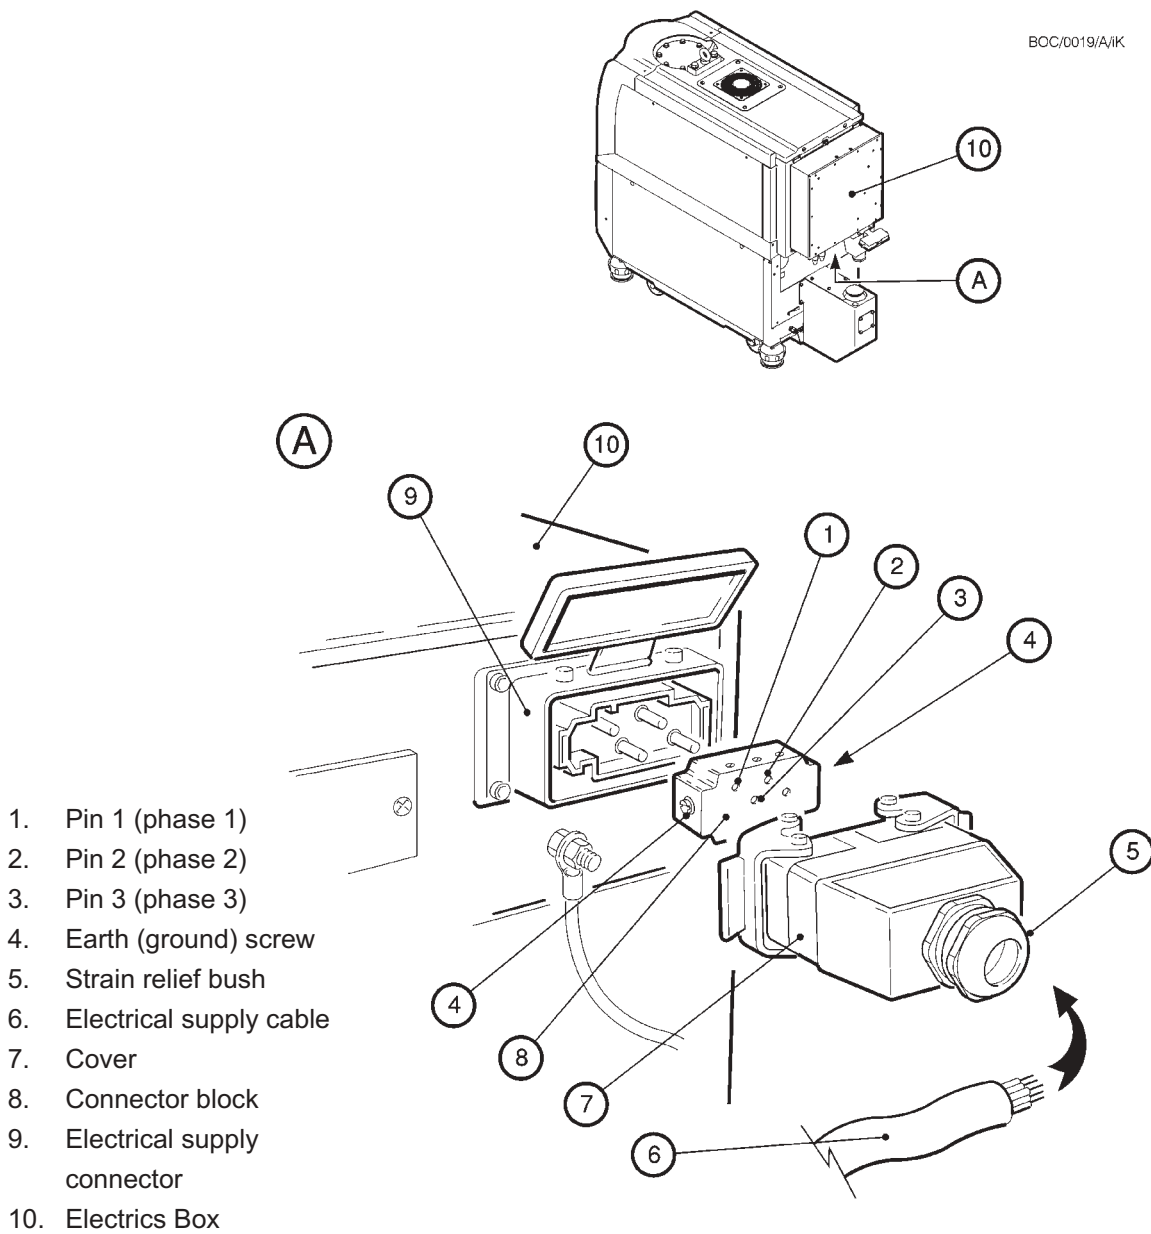

Figure 3-13 - Connect the electrical supply cable to the connector mating-half
1. Refer to Figure 3-13. Remove the connector block (8) from the hood (7) of the mating-half electrical supply connector.
5. Connect the cable phase wires to the pins of the connector block (8), as shown in Table 3-4.
6. Connect the earth (ground) wire of the cable to one of the two earth (ground) screws (4) on the side of the connector block (8).
7. Refit the connector block (8) into the connector hood assembly (7), and tighten the gland locking nut (5).
8. Fit the mating-half assembly to the electrical supply connector (9) on the Electrics and Pump Control Module (10).
Wire	Pin number (Figure 3-13 key)